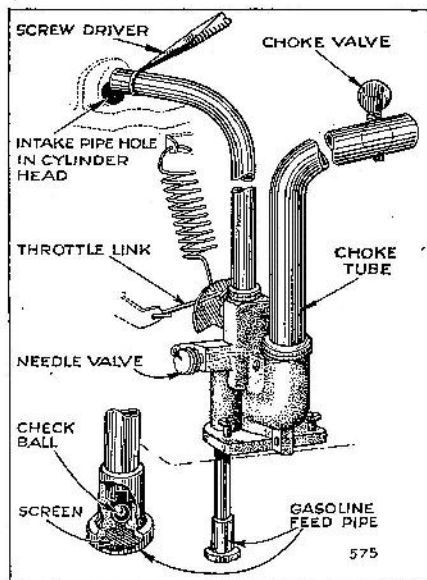

FIG. 2—CARBURETOR
26. If the motor will run after the cylinder has been primed with gasoline, but will not run otherwise, it is possible that the gas pipe from the base to the carburetor is stopped up. Unscrew the carburetor from the base. (See Figs. 2 and 10 and read paragraph No. 53 on page 7.) Remove the gasoline feed pipe from the carburetor noting particularly the length of the pipe before loosening the lock nut so that the pipe can be properly assembled back to the carburetor.
Wash out the screen in alcohol and blow through the screen end of the pipe. The check ball as shown in Fig. 2 prevents air from passing through when blown from the opposite end.